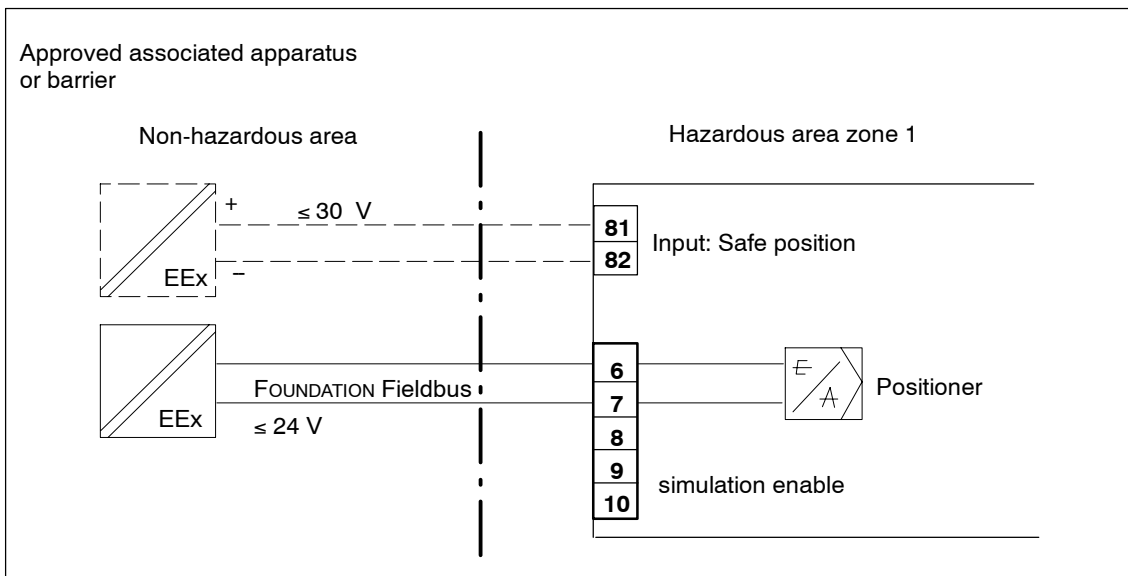
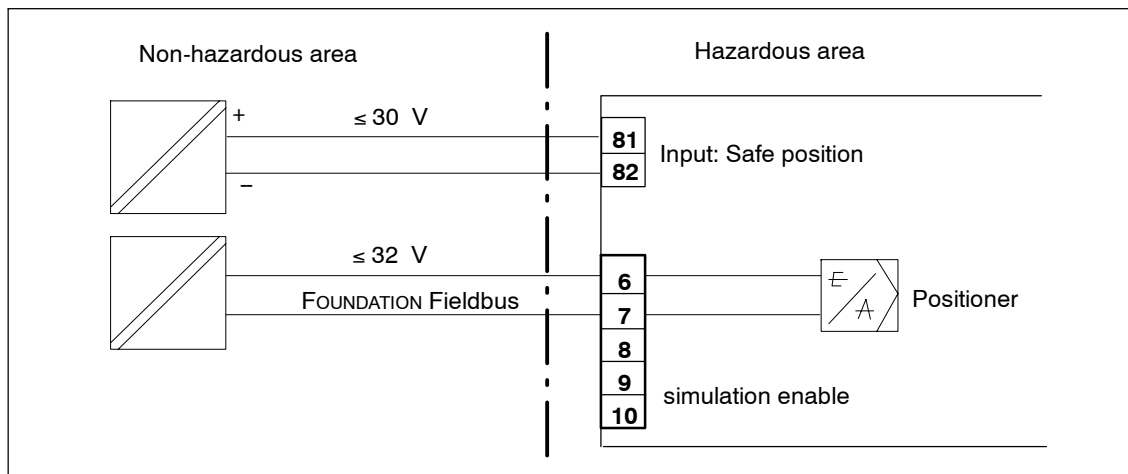

Figure 3-16 Electric connection of basic device with in intrinsically safe version
Figure 3-17 Electric connection for positioner in explosion-proof version or in type of explosion protection "n" version
6. Connect the red and green wires as shown in figure 3-16, page 58 to terminals 6 and 7 of the mother board (the polarity is immaterial).
4. Connect the positioner to the fieldbus line (figure 3-16, page 58 and figure 3-17, page 58).
5. The positioner is now in the operating mode "**P-manual operation**". The current potentiometer voltage (P) is displayed in percent in the top line of the display, e.g.: "**P12.3**", and "**NOINI**" flashes in the bottom line: